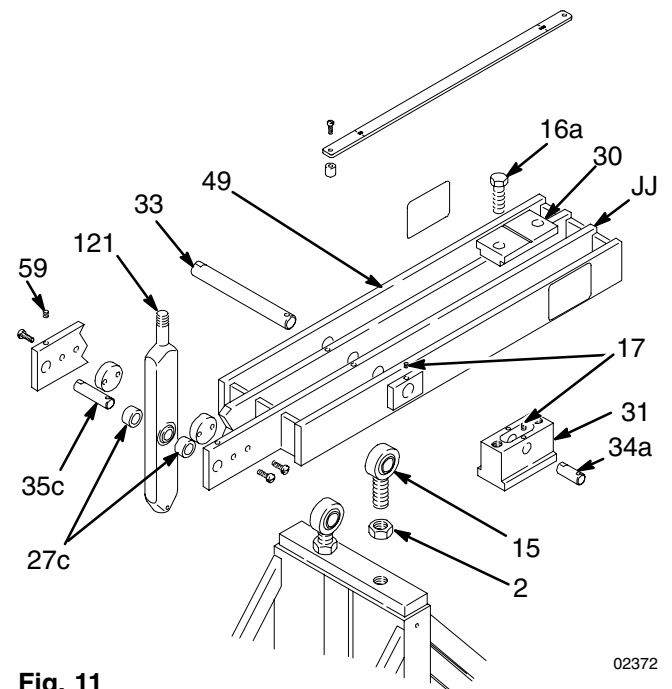

Fig. 11
3. Loosen the two setscrews (59) holding the primary displacement pump pin (35c) in the lever arm (49). See Fig. 11. The setscrews must be backed out far enough to clear the countersinks of the pin. Tap the pump pin out of the lever arm and bearing.
4. Slide the primary pump out of the lever arm (49) slot and save the two nylon spacers (27c).
6. Push down on the secondary displacement pump end of the lever arm (49) at point (JJ) until it is at the bottom of the stroke. See Fig. 11.
7. Remove the two top capscrews (16a) from the index clamp (30).
8. Raise the lever arm (49) slowly. Lower the secondary pump to the floor until it supports itself with the lower bearing.
9. Loosen the two setscrews (17) located above the ends of the frame pin (33). The setscrews must be turned out far enough to clear the countersinks of the pin.
10. Using a long punch and hammer, gently drive the frame pin (33) out from one end until it can be pulled out.